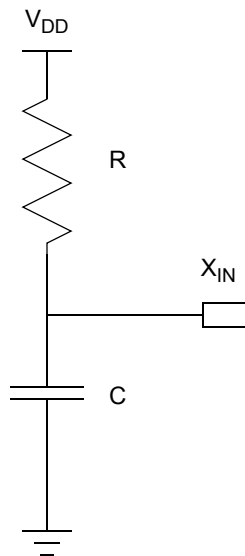

Figure 41. Connecting the On-Chip Oscillator to an External RC Network
The External RC Oscillator Mode is applicable to timing-insensitive applications. Figure 41 displays a recommended configuration for connection with an external resistor-capacitor (RC) network.